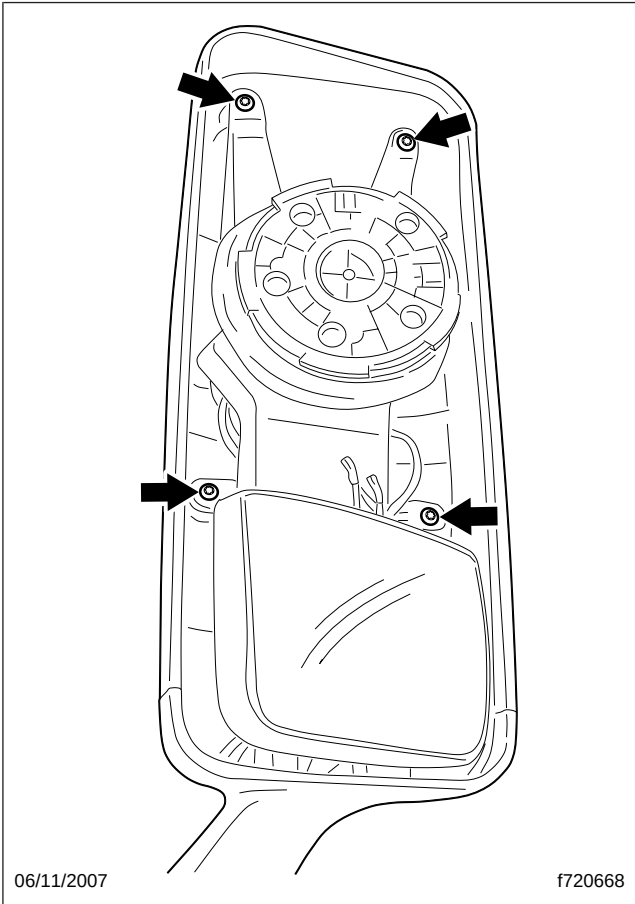

Fig. 2, Back Cover Fasteners
- 3.1 Remove the four Torx screws that attach the back cover to the mirror arm; see **Fig. 2**.
- 4.3 Make sure that the cover is tightly seated on the mirror arm, then attach it to the arm with four Torx screws; see Fig. 2. Tighten the screws 13 to 17 lbf·in (145 to 190 N·cm).